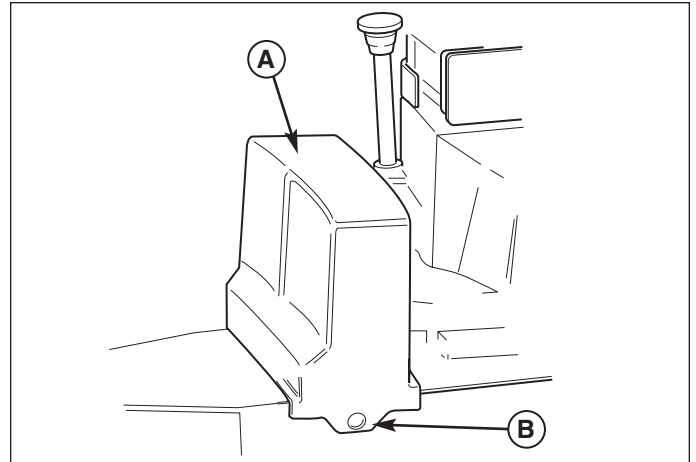

Figure 16. Belt Cover
1. Turn off the engine, remove the spark plug wire, and wait for all moving parts to stop. Loosen the two screws (B, Figure 16) securing the belt cover.